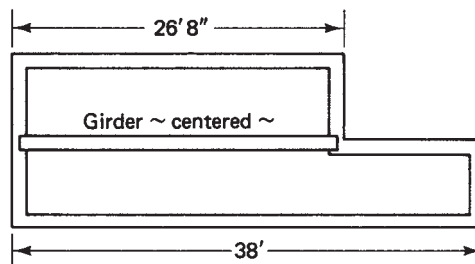

Figure 14–3
- B. The floor framing for the building outlined in Figure 14–3 calls for 2×10 s placed 16 in. o.c. How many are needed if a girder is centered as shown? Assume that the joists will be hung from the girder with joist hangers.